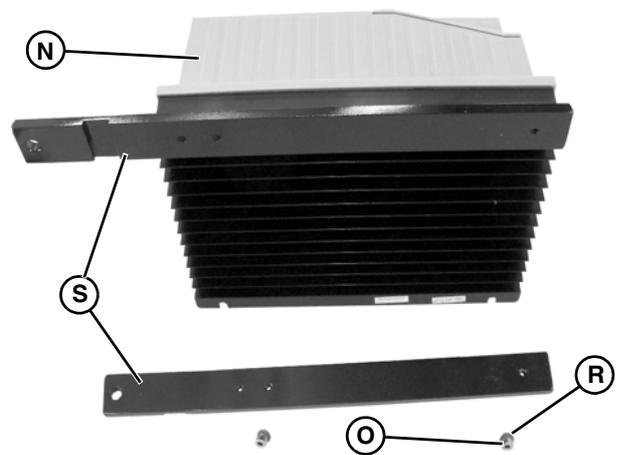

Figure 11
- Attach mounting bars (Figure 11, item S) to controller (Figure 11, item N) with M5 x 8 mm screws (Figure 11, item O) and M5 washers (Figure 11, item R).